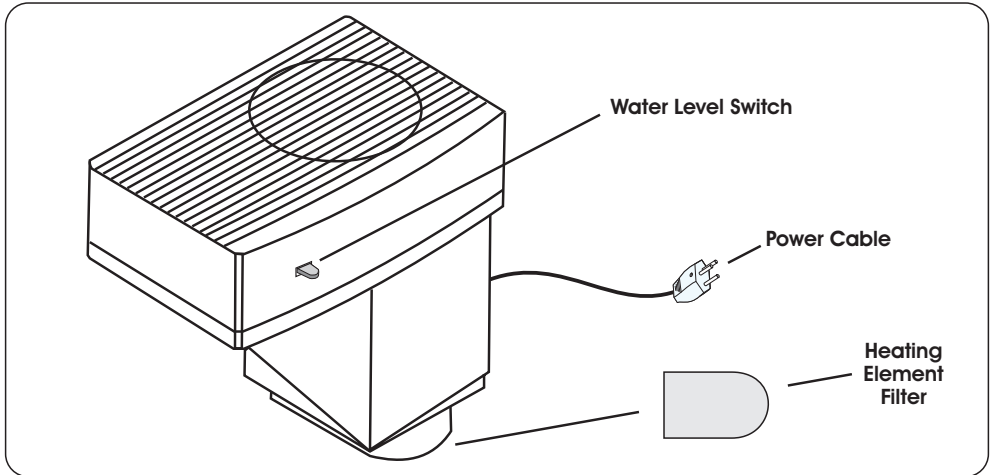

Fig. 4
- **WATER LEVEL SWITCH** - Device (Fig. 4, page 7) which function is to turn the equipment off in the following cases: